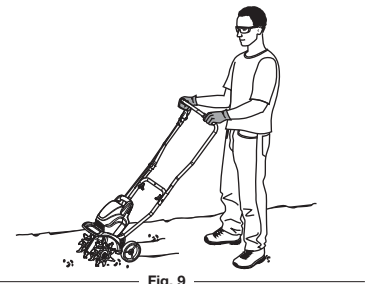

Fig. 9
2. Stand in the operating position (Fig. 9). Hold the handlebar with both hands.
4. Hold the handlebar firmly with both hands and slowly lower the unit until the tines make contact with the ground (Fig. 9).